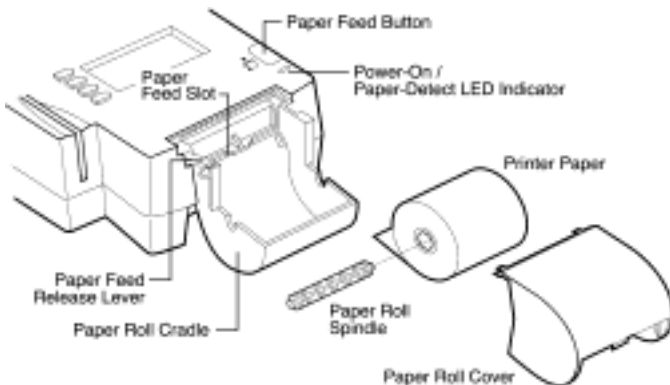

Figure 15 Thermal Printer Features
A fast, quiet thermal printer is built in to the OMNI 3200. Because the printer receives power directly from the terminal, there are no additional cables to connect (see Figure 15).
4. Holding the roll with the paper feeding from the bottom of the roll, slowly guide the leading end into the paper feed slot (see Figure 15). When the sensor detects the paper, the feed mechanism starts automatically, advancing the paper into the printer. (If necessary, press the paper feed button until the paper emerges from the slot below the serrated metal strip.)
1. Remove the paper roll cover. Then, lift up on the small, black lever located on right side of the paper roll cradle until it snaps into its “up” position (see Figure 15). This lets you move the paper freely through the paper feed mechanism.